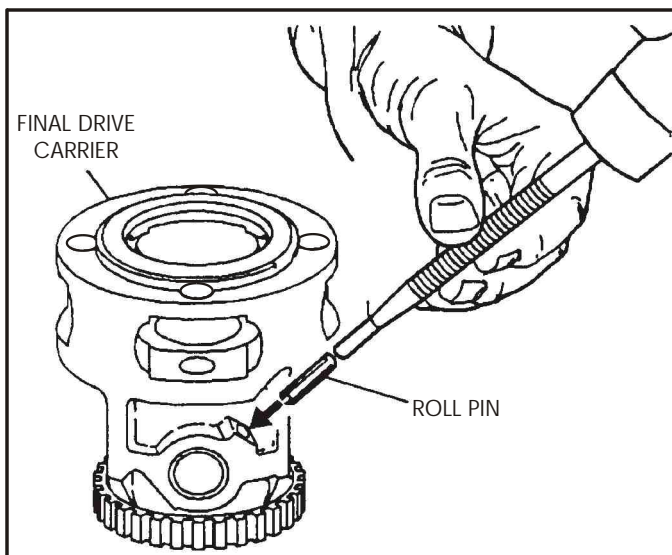

Figure 89
21. Align the hole in the cross shaft with the hole in the carrier housing and install roll pin that retains the cross shaft (See Figure 89).
22. Use a drift punch and mallet to install the roll pin into the housing (See Figure 89).